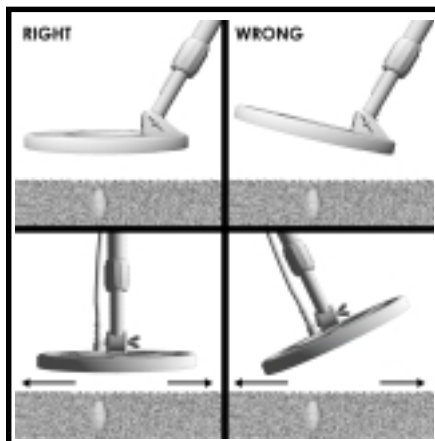

Figure 6. Keep the search coil parallel and as close to the ground at all times.
4. KEEP THE COIL PARALLEL TO, AND AS CLOSE TO THE GROUND AS PRACTICAL (See Figure 6). This is